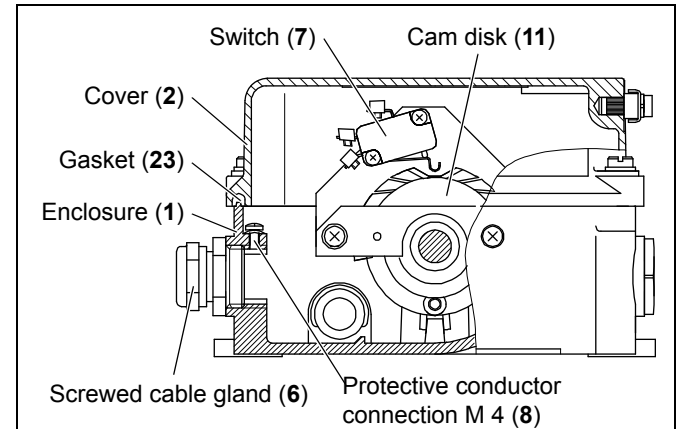

Fig. 5-6: View of the belt misalignment switch connections
- Loosen the nut on the screwed cable gland (6) and thread the connection cable ($\text{Ø}11.5 \text{ mm}$ to 15.5 mm) through it (see fig. 5-6).